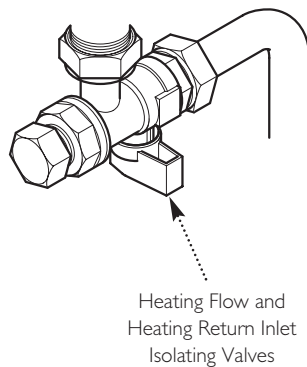

Fig. 9
2. The water isolating valves are positioned under the boiler and can be closed by turning their taps to the right towards the wall (Fig. 9).